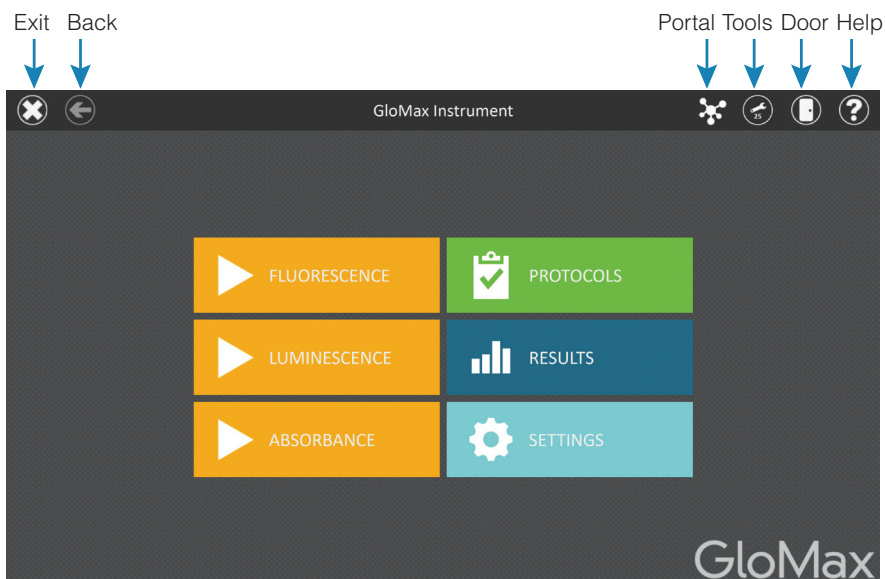
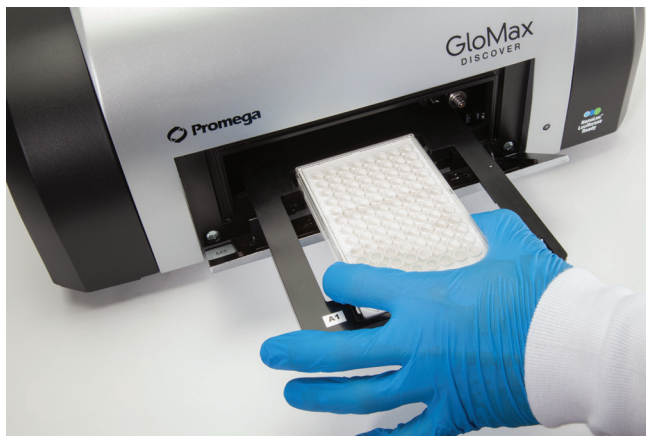

Figure 6. GloMax® Discover software ‘Home’ screen.
Figure 7. Plate tray extended.
2. Shut down the GloMax® Discover Software by tapping on the **x** in the upper left corner (Figure 6).
1. Open the Door of the instrument by tapping the **Door** icon on the top right corner of the screen (Figure 6). When the plate tray extends, add the plate such that well A1 of the plate corresponds to the label “A1” on the plate tray (Figure 7).